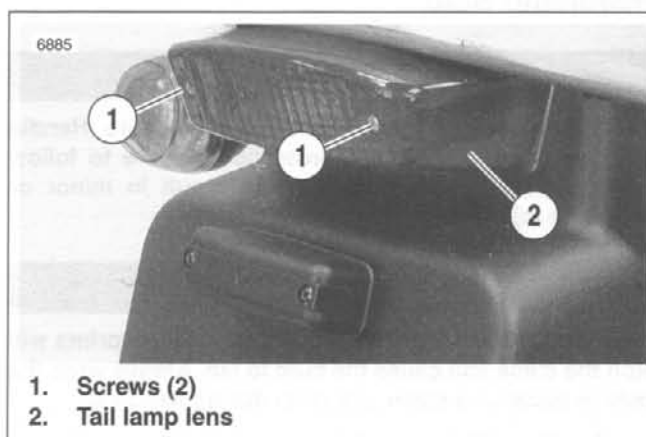

Figure 7-44. Turn Signal Lens
- a. See Figure 7-44. Remove two screws (1) to detach tail lamp lens (2).